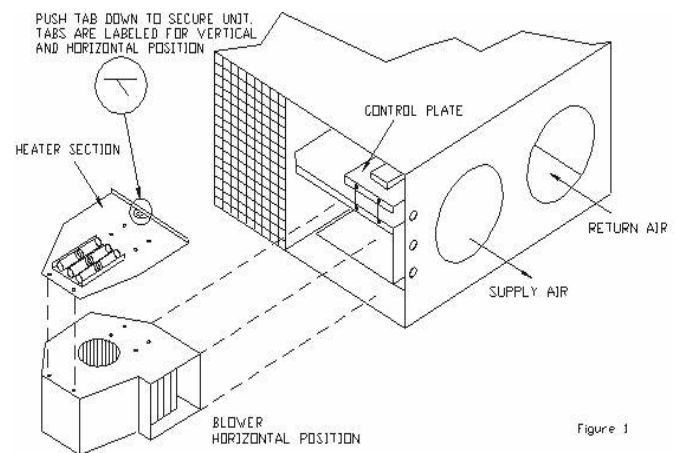

Figure 1
5. Install heater assembly on top of blower housing (See Figure 1). Ensure that the tabs on the heater assembly (marked horizontal) engage the correct slots on the blower housing. Secure heater assembly with screws provided.